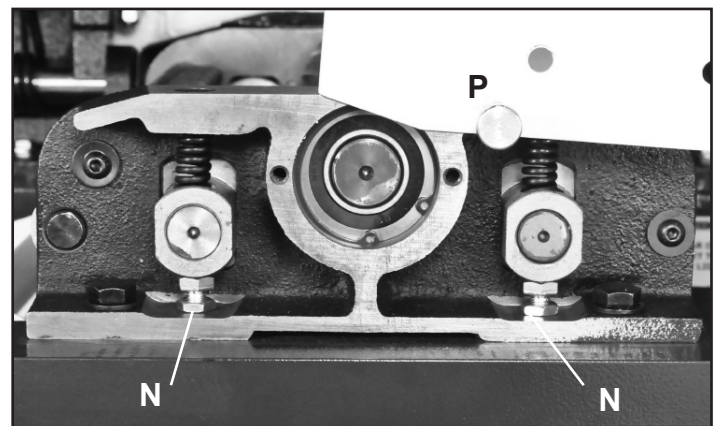

FIG. 28
NOTE: The Front Guard with the 2 screws (#52) removed, can be rotated out of the way, leaving the dust collector's spring-loaded Locating Pin (#51, P) in place. FIG. 28. The Rear Guard can be removed once the 2 locating screws are removed, by lowering the jointer table then removing the fence assembly.
4. Under the Cutterblock Brackets (#57 & 69), the Tightening Screws (#73) hold the compression Springs (#72) in place on the brass Shaft Sleeves (#59). The bottom Hex Bolts (#67, FIG. 28, N) can be tightened or loosened with a wrench to adjust the feed rollers. FIG. 28.